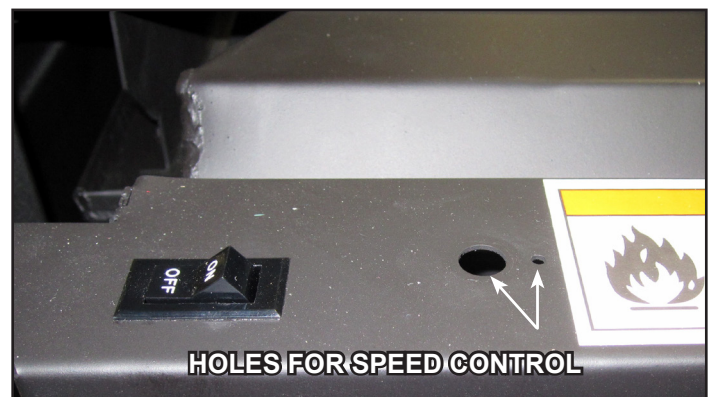

Figure 8.6 - Pre-Punched Holes for Speed Control
4. Remove the knob and locknut from the speed control. Install speed control onto rear shroud with stem protruding from pre-punched hole. Attach the lock nut tightly and reattach the knob on the stem. See Figure 8.6.